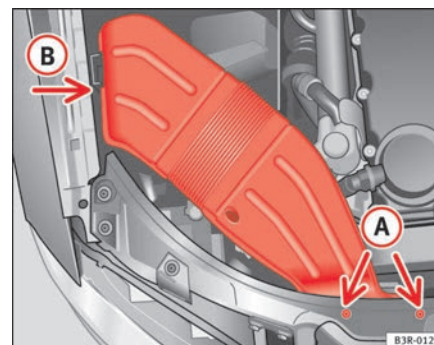

Fig. 199 Air duct on right side of vehicle
- Unscrew bolts (A) ⇒ page 257, fig. 199.
- Detach air duct from guide (B) and take it out. ■